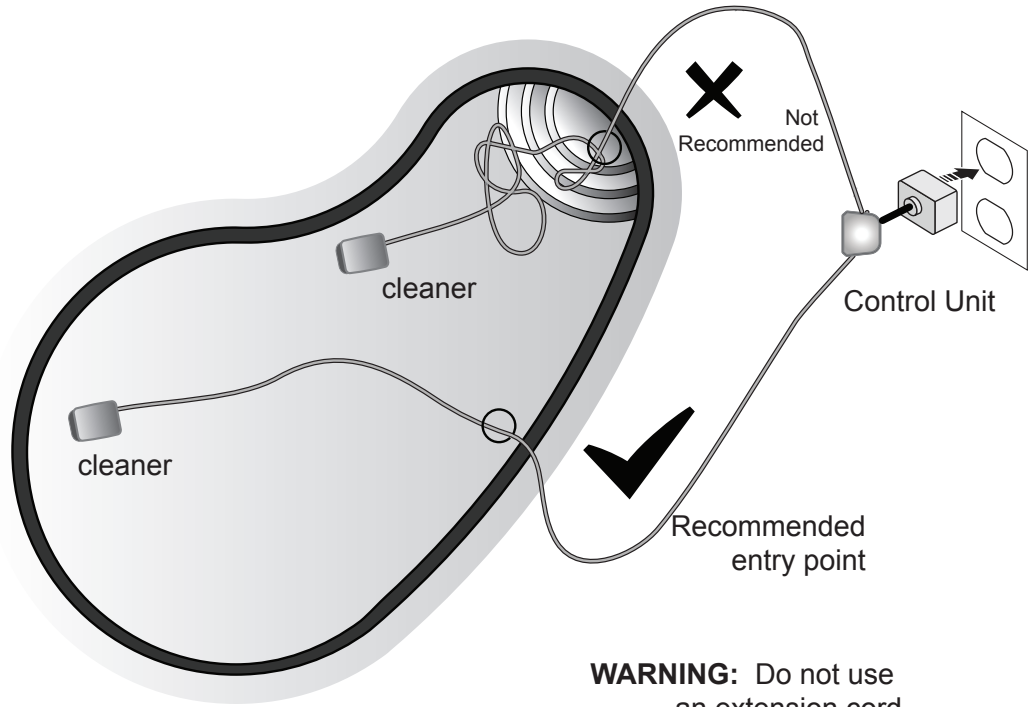

**Figure 4. Submerge and Remove Trapped Air**
2. Submerge cleaner vertically (1) and hold it under the surface, moving gently from side to side (2) until the bubbles stop to remove any air trapped inside (Figure 4).
5. Place the cleaner in the pool at the recommended entry point (see Figure 4). Spread all of the floating cable carefully in the pool, ensuring there are no kinks or coils.